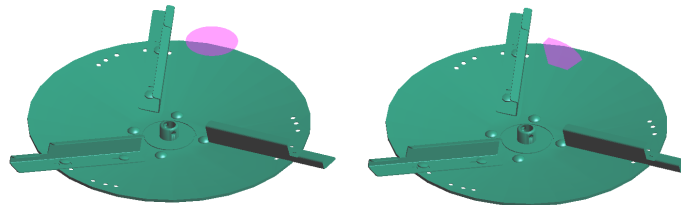

Figure 17. Circular and custom shaped inlet.
- **Inlet shape:** the inlet can be circular or custom shaped (Figure 17).